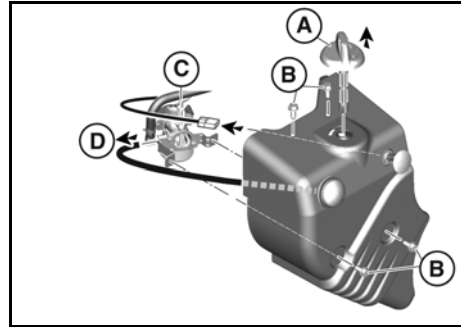
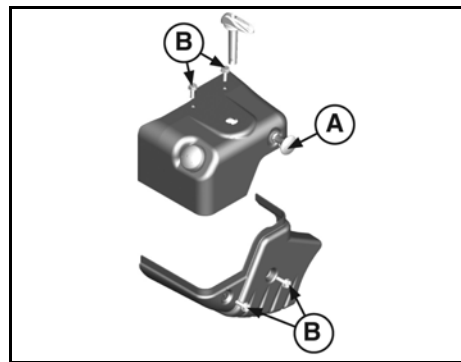

Figure 15
Figure 16
1. Remove choke knob (A, Figure 15 and Figure 16).
2. Remove fasteners and hood (B).
3. Disconnect stop switch wire (C) and primer hose (D).
1. Connect stop switch wire (C, Figure 15) and primer hose (D).
2. Install hood and fasteners (B).
3. Install choke knob (A) with tab under knob fitting into slot of hood. Actuate the choke knob to check for proper movement.
4. Using a wire gage, check and set the gap (A, Figure 15) per Section 12 - Specifications.